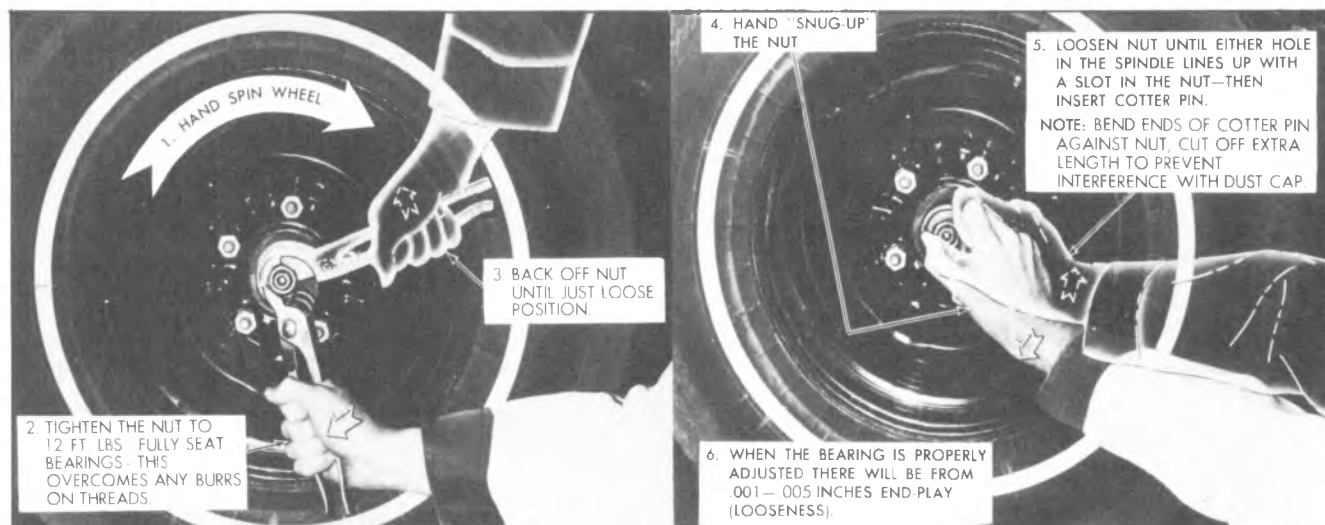

Fig. 3C-3—Wheel Bearing Adjustment
ADJUSTMENT OF WHEEL BEARINGS (FIG. 3C-3)
4. Tighten the spindle nut to 12 ft. lbs. while turning the wheel assembly forward by hand to fully seat the bearings. This will remove any grease or burrs which could cause excessive wheel bearing play later. See Fig. 3C-3.